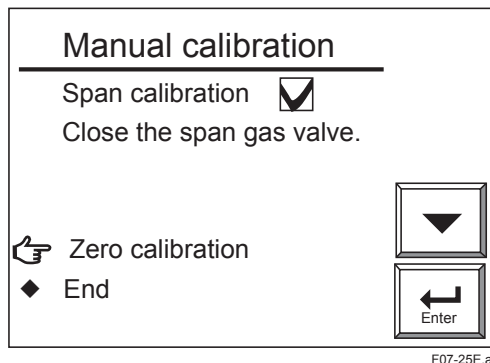
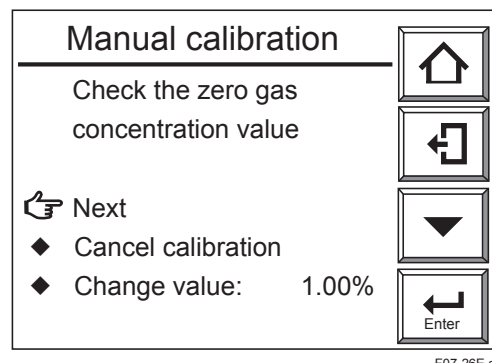

Figure 7.25 Span Calibration Complete Zero Calibration Start Display (in Manual Calibration)
Figure 7.26 Zero Gas Concentration Check Display
- (5) After the measured value has stabilized, press the [Enter] key to display the “Span calibration complete” display shown in Figure 7.25. At this point, the measured value is corrected to equal the span gas concentration setting. Close the span gas flow valve. The valve lock nut should be tightened completely so that the span gas does not leak.
- (6) Select “Zero calibration” as in Figure 7.25 to display the zero gas concentration check display (Manual calibration) . Check that the zero gas oxygen concentration value and the calibration gas oxygen concentration value agree. Then select “Next” as in Figure 7.26.